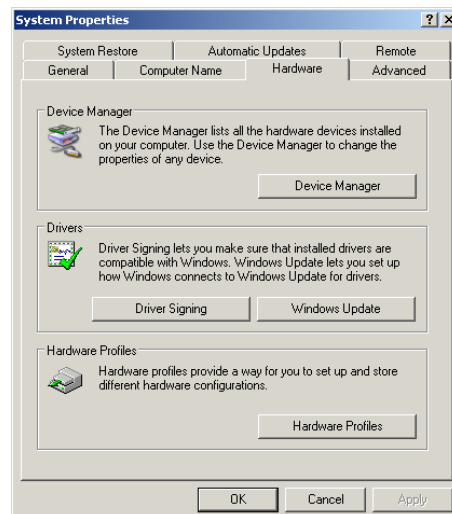

Figure A.9: Hardware Properties
- 2) Browse to the Hardware Tab (Figure A.9), Click the Button labeled “Device Manager”.